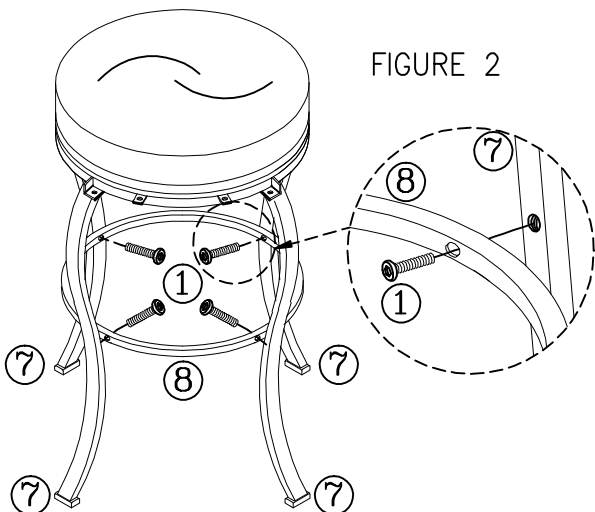

FIGURE 2
- Place bar stool legs on flat surface. SEE FIGURE 2
- Place foot rest metal ring (8) between legs (7), align pilot holes on foot rest metal ring (8) with threaded holes on legs (7) and secure foot rest metal ring (8) into legs (7) with screw (1). Tighten screws with Allen wrench (5). SEE FIGURE 2